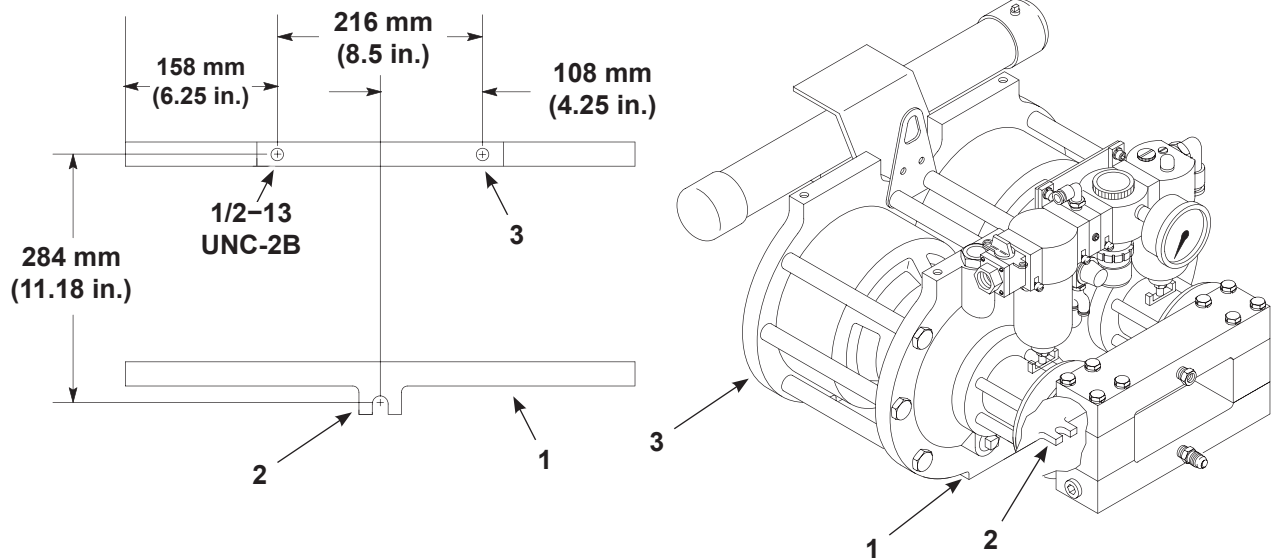

Figure 3-2 DR-1676 Pump Components
1. See Figure 3-2. Install the pump on a horizontal surface, in an area accessible for operation and maintenance. Use three 1/2–13 bolts, washers, and lockwashers to mount the pump.
2. Install one bolt into the mounting slot (2) on the solvent chamber (1). Install the two remaining bolts into the threaded mounting holes located on the bottom surface of the upper head (3).